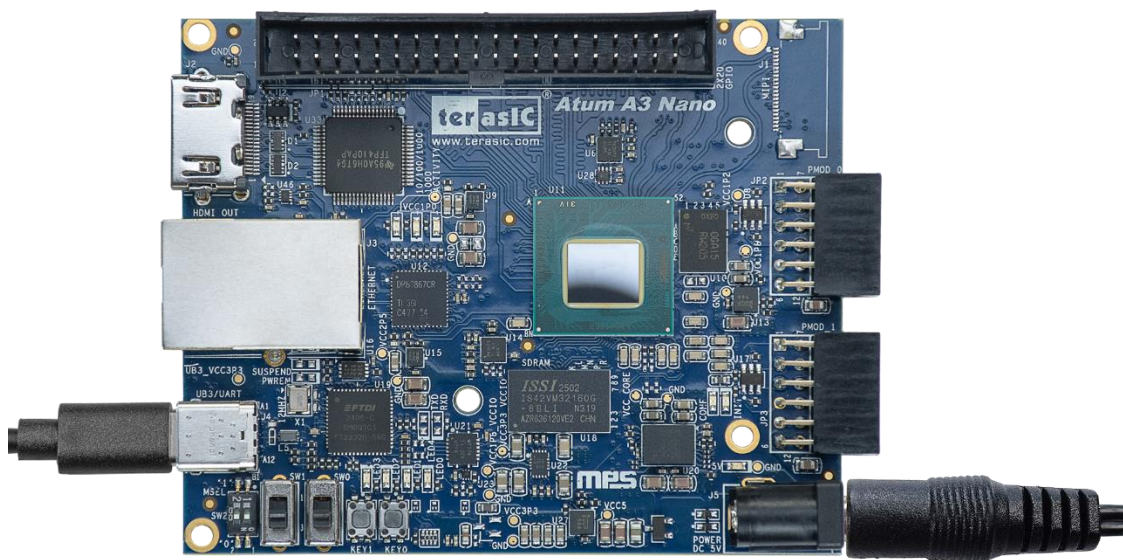

Figure 5-3 Power and USB cable connection for the board
5. Ensure that the USB blaster connector (J4) of your Atum A3 is connected to your host PC with a USB cable (see **Figure 5-3**) and the board's power is powered on.
Ensure that the USB blaster connector (J4) of your Atum A3 is connected to your host PC with a USB cable (see **Figure 5-3**) and that the board's power is turned on.